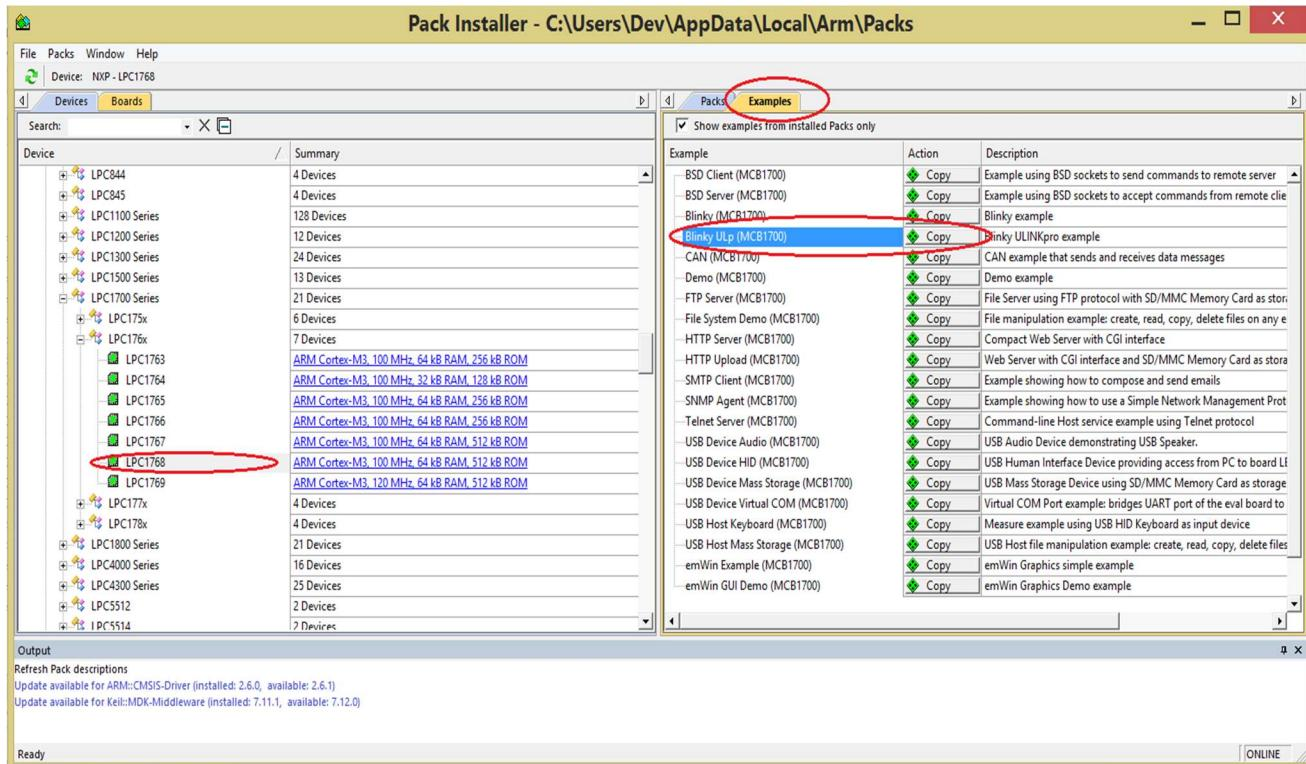

Figure 12: Copy Blinky Project
3. The Pack Installer Opens up Select the Blinky ULP Project. As shown in Figure 12.